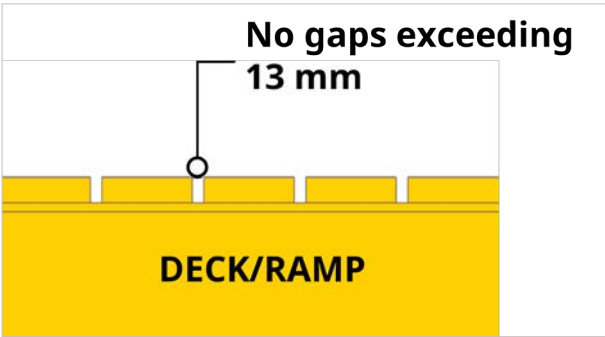

Figure 13: Openings in deck surface
- Openings and gaps in the deck surface must be no more than **13 mm** (½") to ensure a smooth and even surface (see *Figure 13*).